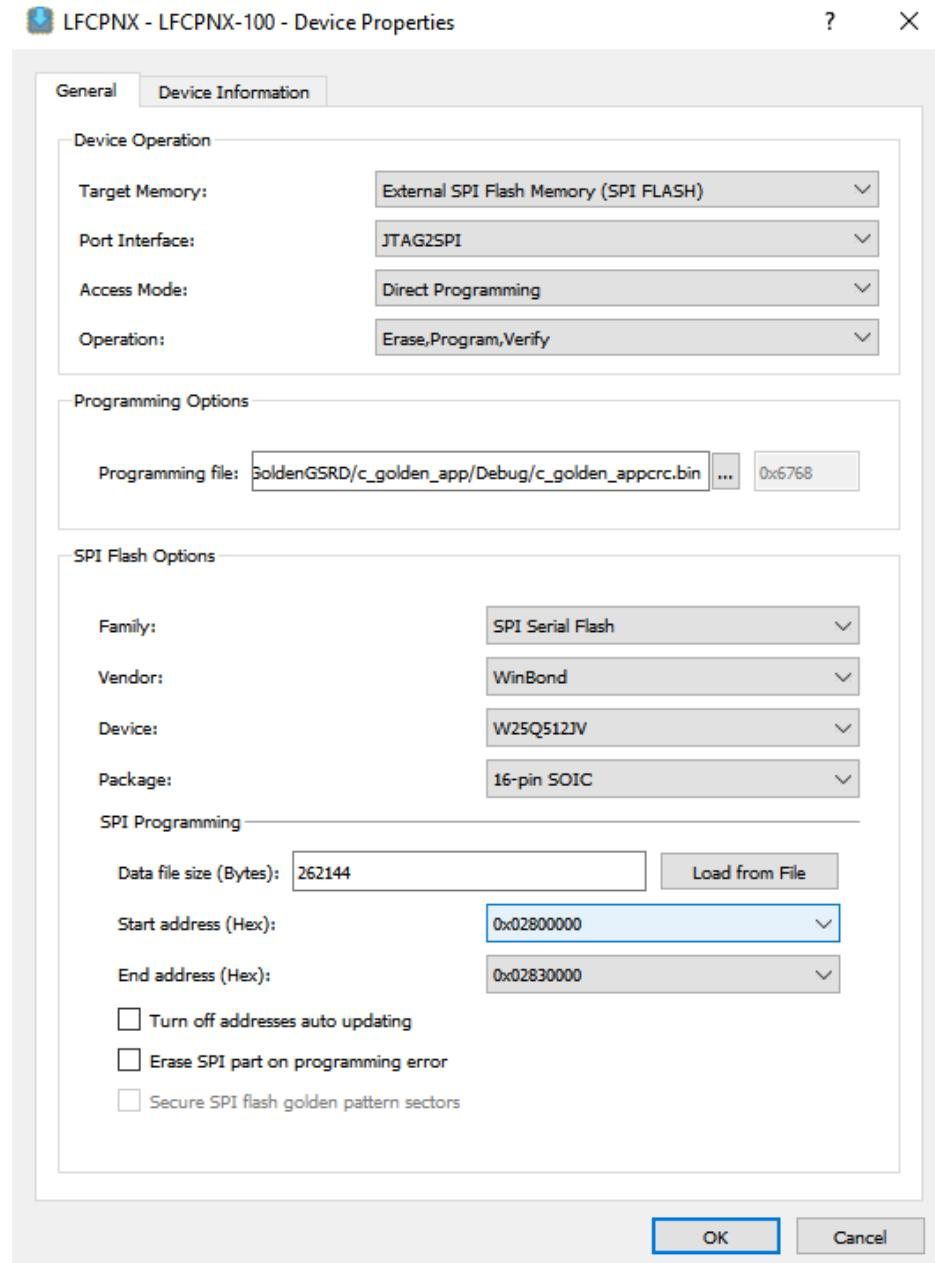

Figure 7.21. Device Properties to Program the Winbond SPI Flash
17. To program the **c_golden_appcrc.bin** file into the SPI Flash. Follow the settings as shown in Figure 7.21.